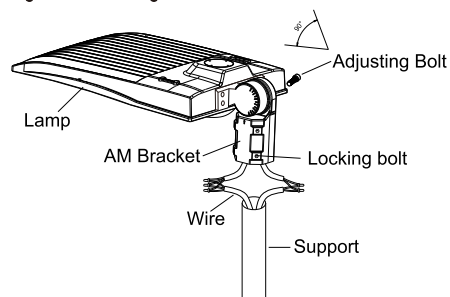

Figure 1
1.ADJUSTABLE FITTER MoUNTING (AM)
Step 1:Loosen the four bolts on AM bracket, connect the wires correctly, and pull the wires into the poles.(Figure 1)
Notice: Adjustable angle is 0-90°(Figure 1)